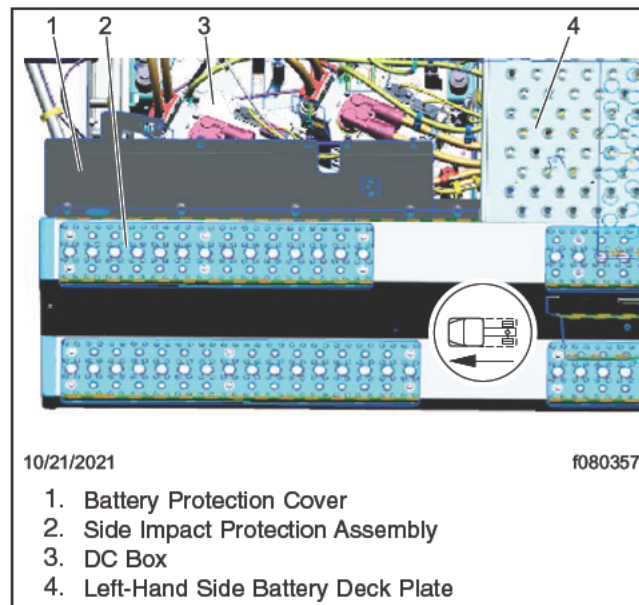

Fig. 1, Removal of Battery Protection Cover
4. Remove the left-hand side battery deck plate. See Fig. 1. For instructions, see **Section 31.05** of the *eCascadia Workshop Manual*.
5. Remove the left-hand side battery protection cover that is attached to the side impact protection assembly. See Fig. 1.